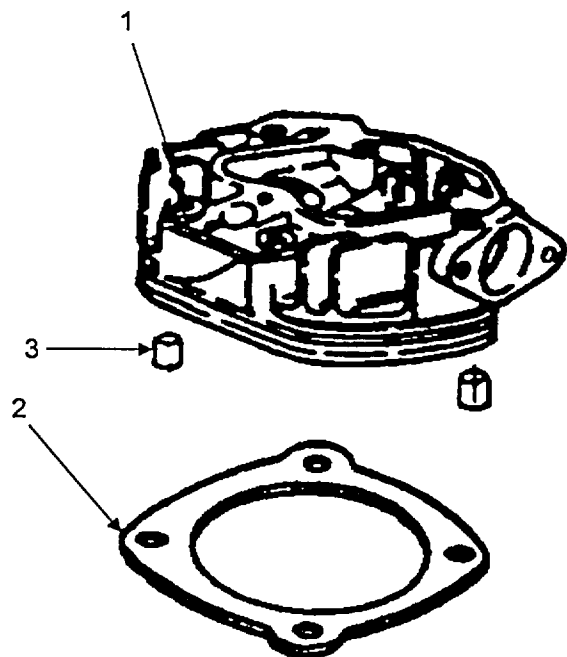
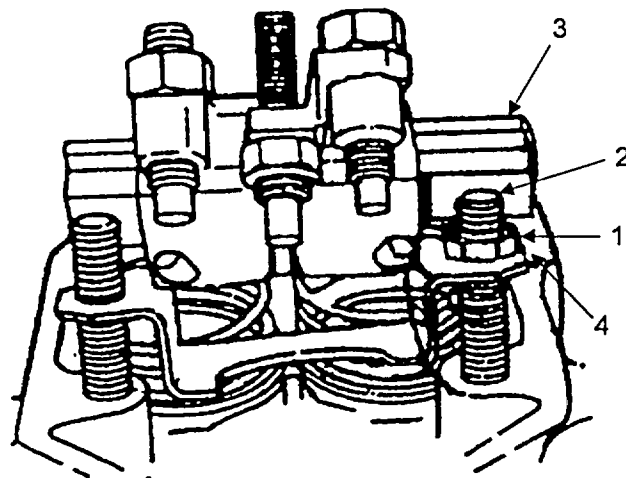

FIGURE 5-26. INSTALL CYLINDER HEAD
FIGURE 5-27. VALVE HEAD ASSEMBLY
a. Install two hollow dowel pins (Figure 5-26, Item 3) in bottom of cylinder head.
b. Install NEW gasket (2) on bottom of cylinder head (1).
d. Install rocker shaft (Figure 5-27, Item 3) with rockers, two air shields, and lifting eye. Install clamp (4).